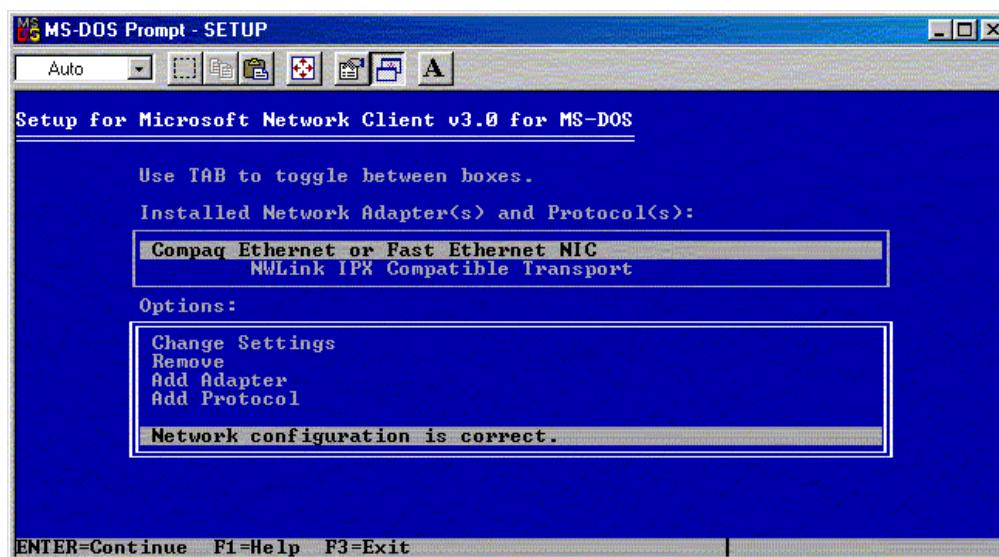

Figure A-11: Network protocols bound to the network driver
9. Highlight **Change Network Configuration** and press the **Enter** key. A screen similar to Figure A-11 is displayed and shows the network protocols that are currently bound to the network driver.